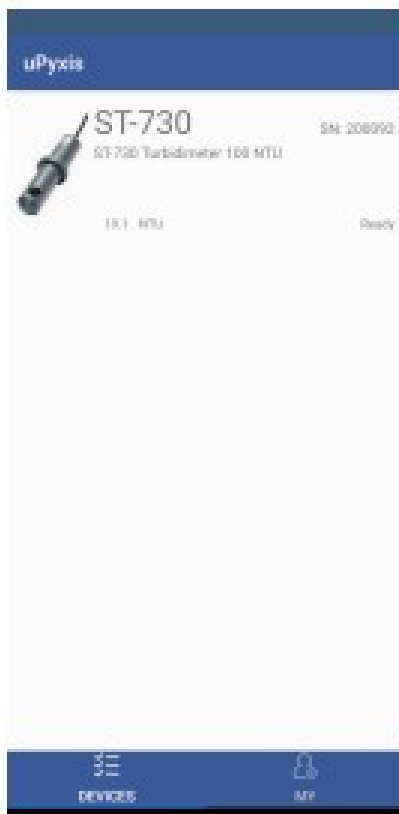

Figure 8.
3. If the connection is successful, the ST-730 Series and its Serial Number (SN) will be displayed (Figure 8).